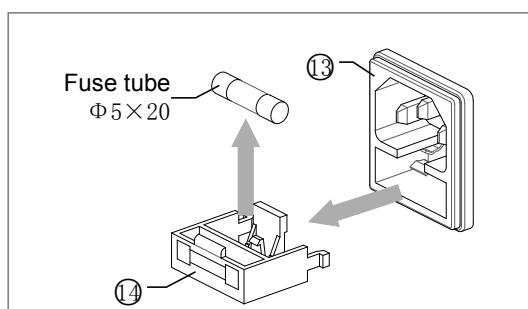

Fig.8-12
8.5.3 Take out old fuse tube. (Fig.8-12)